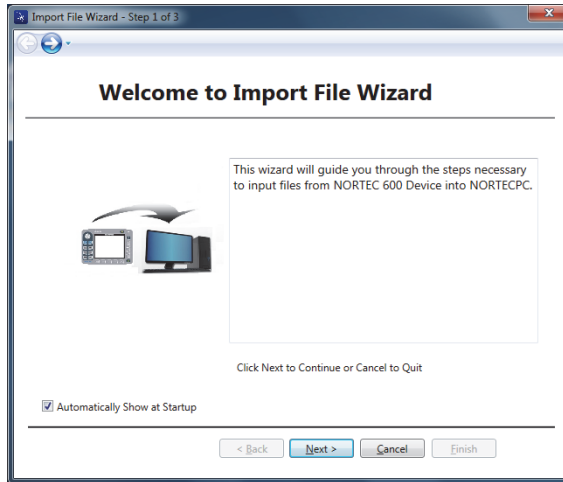

Figure 6-1 The Import File Wizard dialog box
1. Click **Next** to initiate the Wizard's file importation process (see Figure 6-1 on page 304).